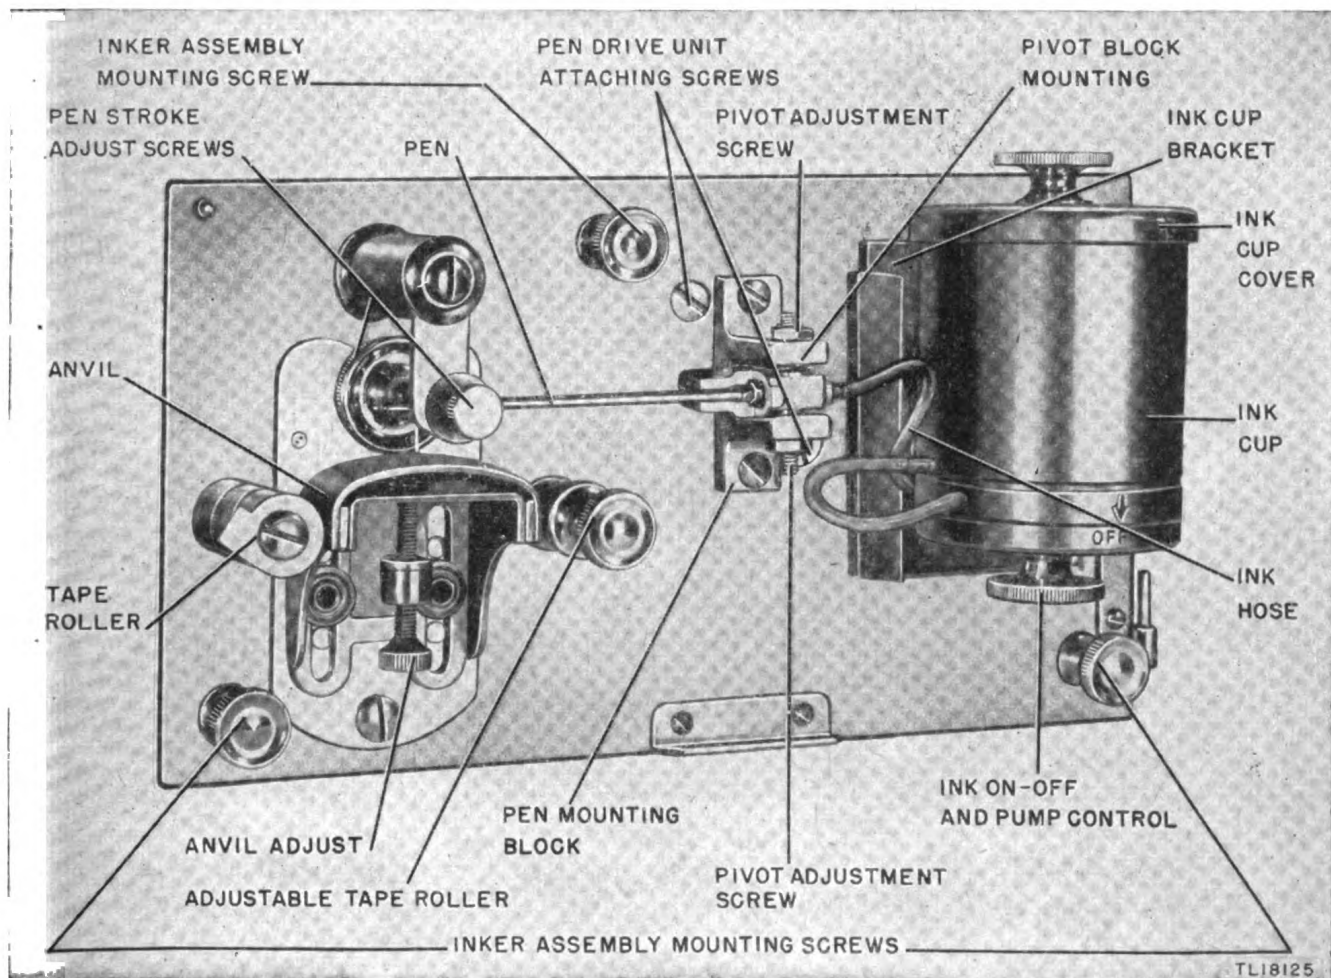

Figure 8. Inker assembly.
a. Open inker assembly cover (52) and lift cover from panel.
c. Loosen three knurled fastening screws of inker assembly (See fig 8.)
d. Pull out separable attachment plug (189) and remove inker assembly from recorder panel.
The satisfactory operation of the recorder depends in great part on the proper functioning of the inker assembly. Improper adjustment, clogged ink channels, or defective parts in this unit will completely thwart the operation of the equipment although electrical components are in perfect working order. See figures 8 and 34 for location of parts.